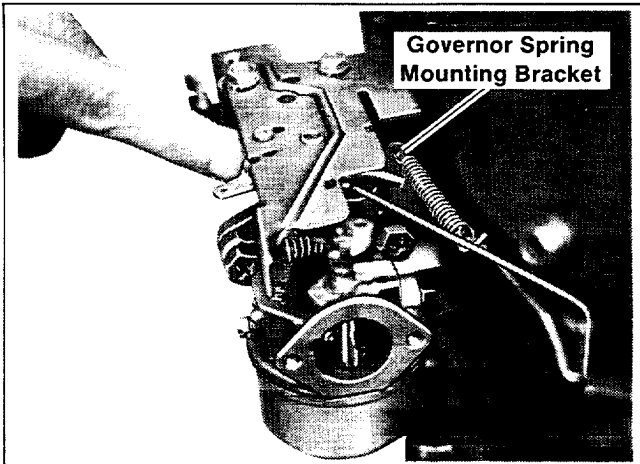

Figure 6. Governor Adjustment
3. Check governor function while generator set is running with load applied. Engine speed is determined by governor spring tension. Bend the governor spring mounting bracket inward (more spring tension) or outward (less spring tension) to reduce engine speed. See Figure 6. The correct speed at no load is 63 Hz (3780 rpm). Stop generator set.